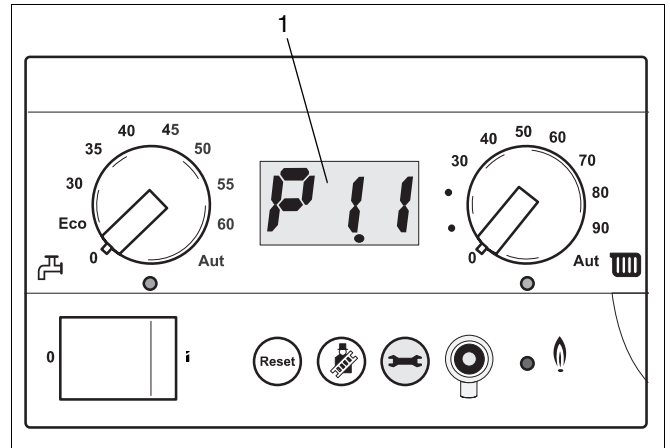

fig. 34 Pressure display
- Fill the system to a pressure of approx. 1.5 bar (→ fig. 34, item 1).